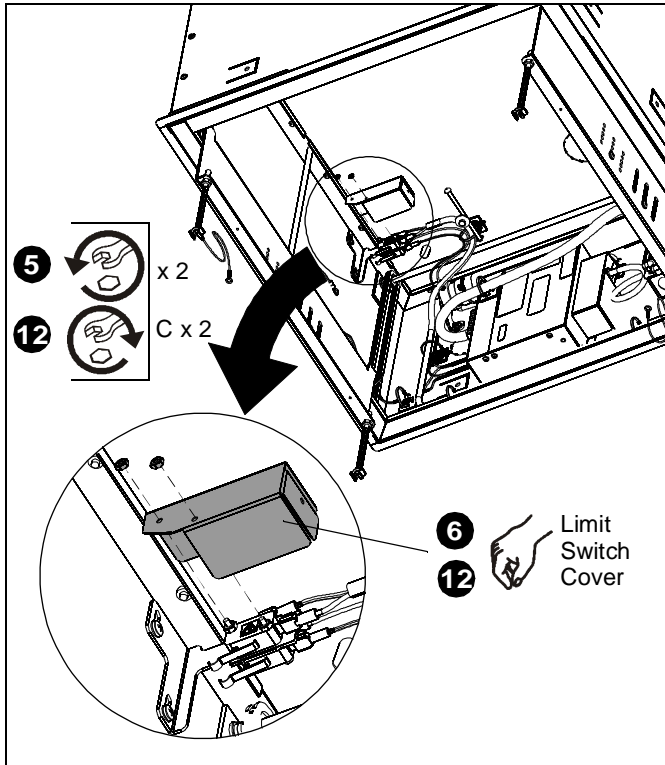

Figure 1
5. Remove and save two nuts. (See Figure 1)
6. Remove and save limit switch cover. (See Figure 1)
17. Replace limit switch cover and fasten using two 4-40 nuts (removed in Step 5 of **Removing Retract Limit Switch** section), or two 4-40 nuts (C). (See Figure 1)